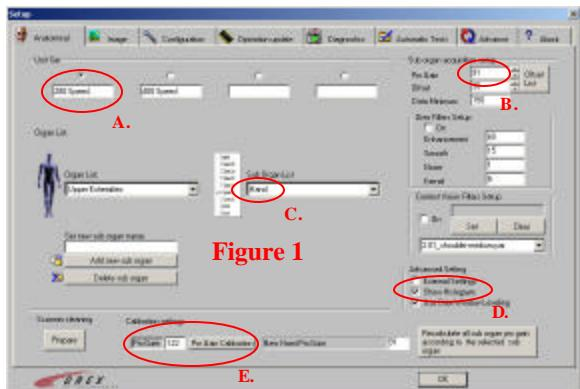

Figure 1
- Turn on “Show Histogram” option by checking the box. (Figure 1.D)
- Be sure correct “unit set” is selected. (Figure 1.A)
- Select “hand” as the sub organ. (Figure 1.C)
- Pixel value, from step 5, is lower than 1800, decrease Sub Organ PM gain (figure 1.B) by 5.
- Pixel value, from step 5, is higher than 2200, increase Sub Organ PM gain (figure 1.B) by 5.
- Enter Sub organ PM gain value (figure 1.B) into PM Gain Calibration Window (Figure 1.E). Press “PM Gain Calibration” button, then Answer “YES”. Your DONE, all Sub Organ PM gain values have been set to this Value.